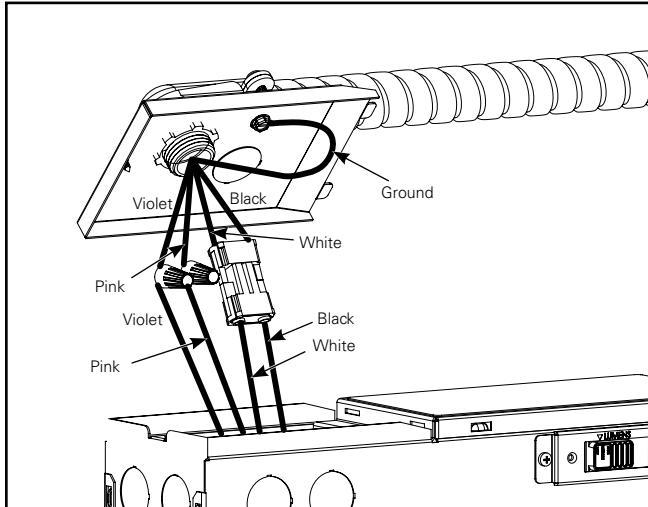

Figure 5.
7. Bring supply wires into the junction box using a conduit fitting through the top access plate. Connect the line (black) and neutral (white) to the supplied quick disconnect. Attach ground wire to the ground screw on the access plate. (Figure 5.)